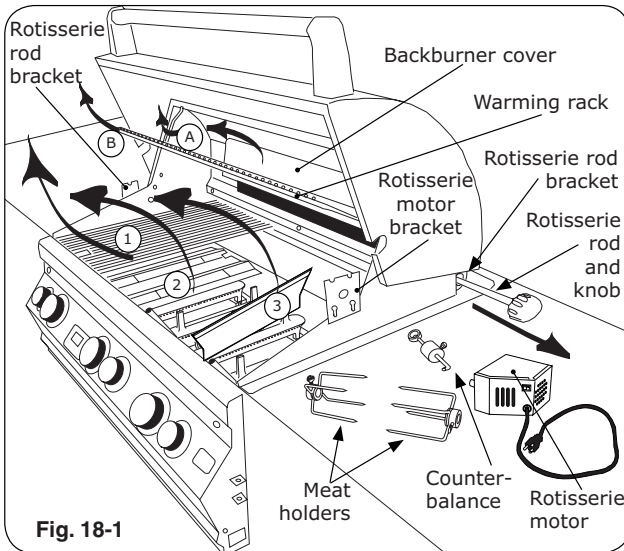

Fig. 18-1
3. Remove rotisserie rod from rear bracket (Fig. 18-1) attach knob if necessary.